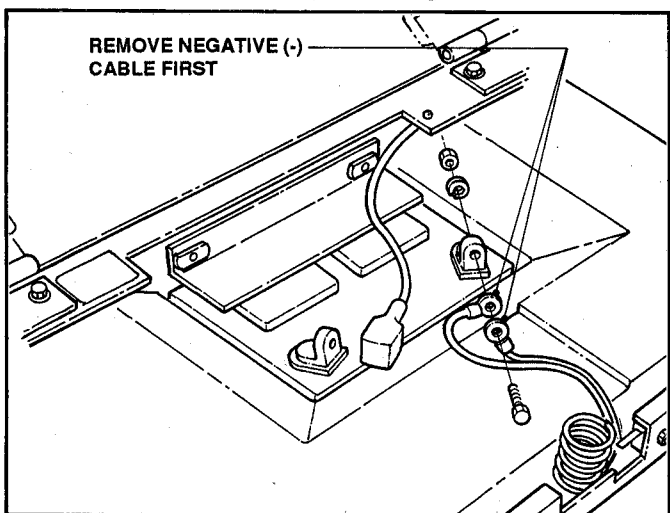

FIGURE 3.3A
1. Before activating the battery, remove it from the tractor. See Figure 3.3A. Never attempt to
- Remove battery. See Figure 3.3A.